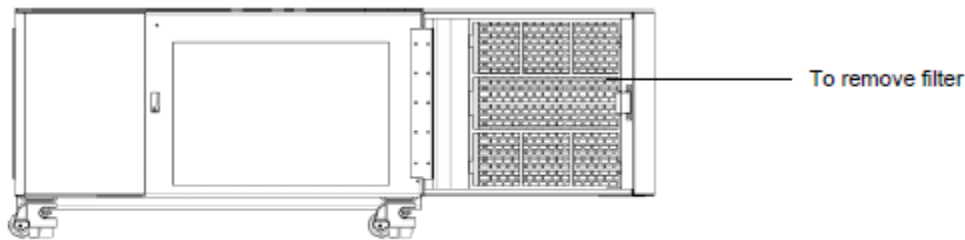

Figure 4-1.Location of Grille and Filter
2. Locate the grille on the door. See Figure 4-1.